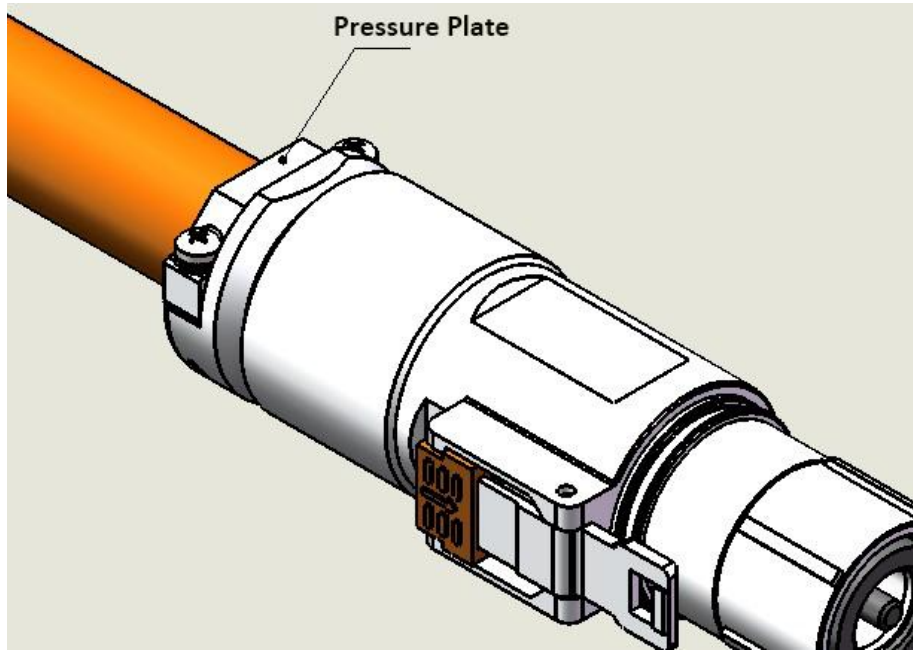

Figure 11
3.1.7 Install the pressure plate on the nut, see Figure 11